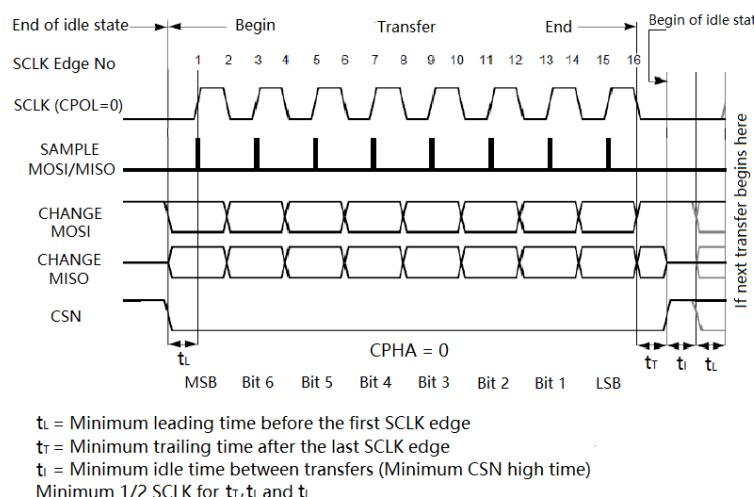

Figure 21 Slave SPI Operation
6.3 6.3.1 MOSI is generated by the master on the falling edge of SCLK and is sampled by the slave (i.e. this SPI interface) on the rising edge of SCLK. MISO is generated by the slave on the falling edge of SCLK. The CSN line must be held low during a data transfer and kept high between transfers. MISO is high impedance when CSN is high. The number of data bytes is dependent on the length of command. The most significant bit is sent first. For detailed timings see section 3.2. This slave SPI operation is shown in Figure 21.